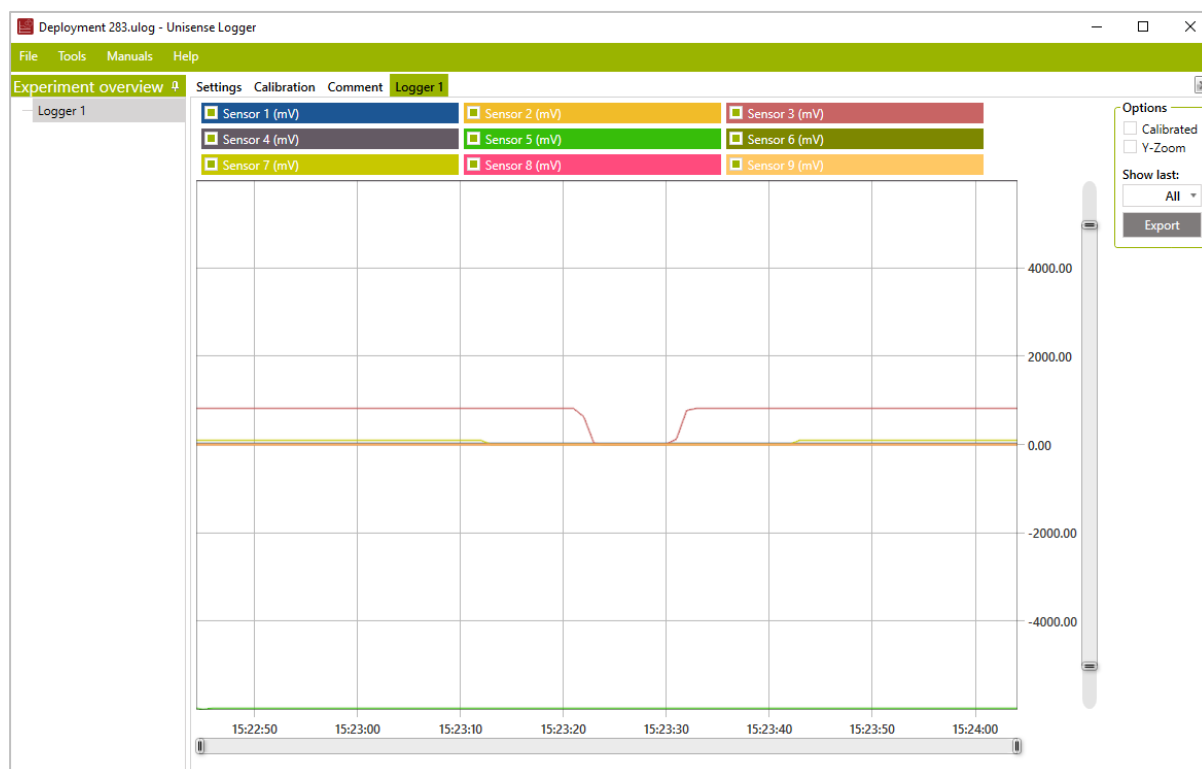

Figure 13: View of data from the Experiment named "Logger 1". The tab "Logger 1" is active.
- Select the relevant data tab in the Menu bar (Logger 1 in Figure 13)